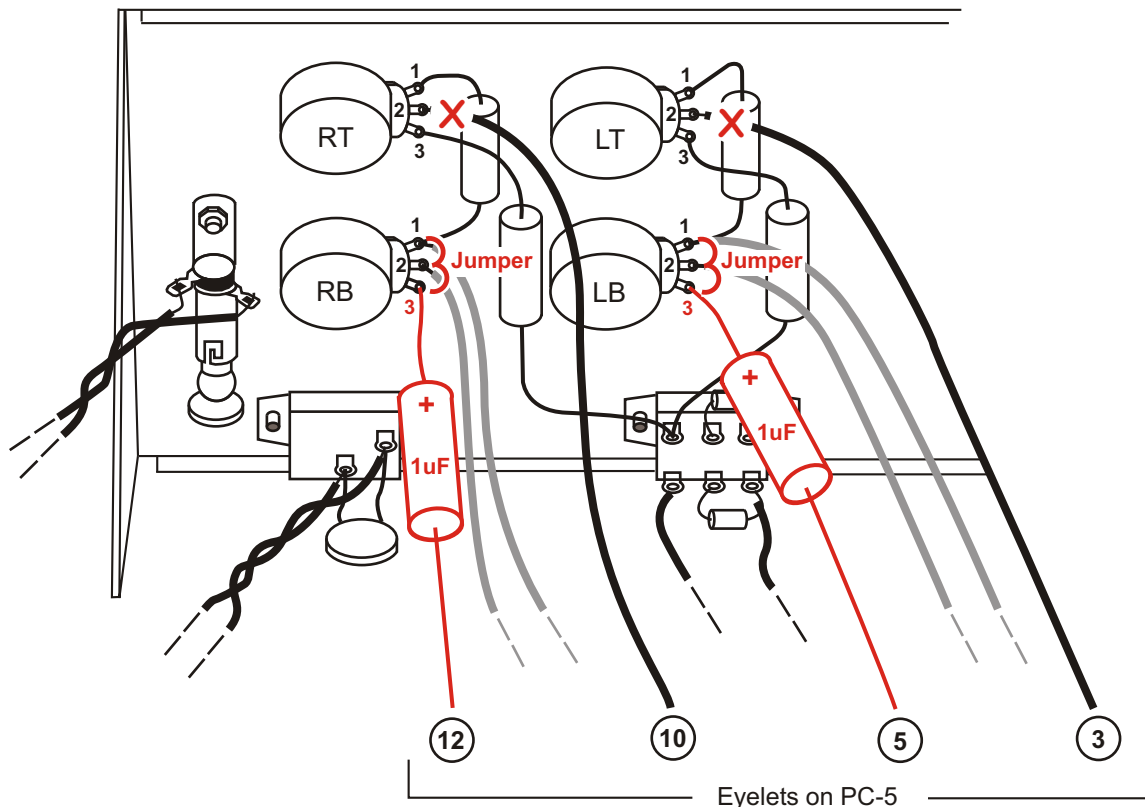

Fig. 2 Tone Control Bypass Modification
Refer to Fig. 2 to implement the tone control bypass modification.
*Note: Dynaco used 1uF 15V electrolytic capacitors in the PAS 3X, however quality film types are preferable and recommended. If using electrolytics, be sure to note the correct polarity as indicated in Fig. 2.